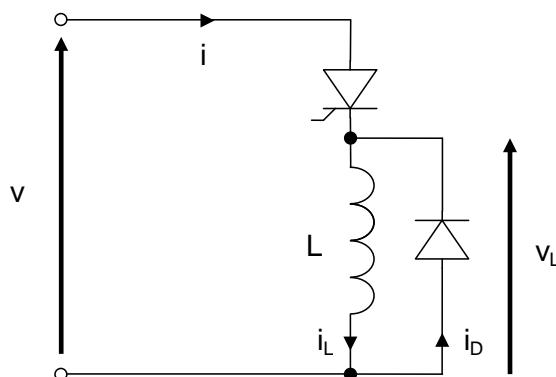

Figure 2
- (c) In the circuit shown in Figure 2, the thyristor is turned on at time  $t = 0$ , where the supply voltage,  $v$ , is given by